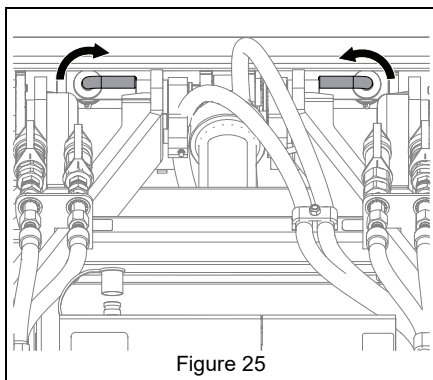

Figure 25
5. Rotate lock pins to locked position (handles facing inwards). Verify lock pins are fully inserted through lock holes in attachment. See Figure 25.